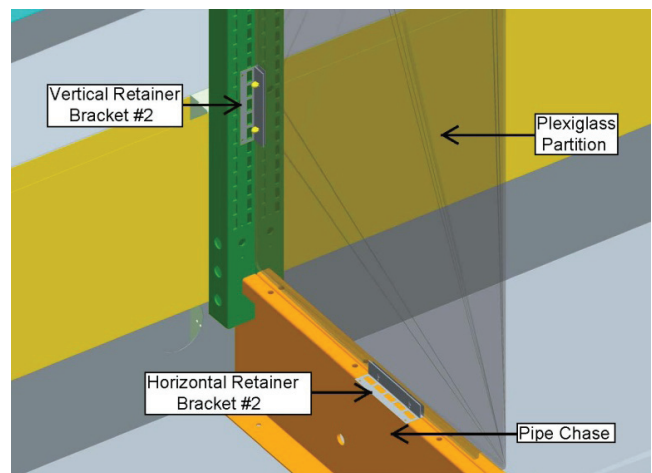

Figure 2: Bottom of Plexiglas
**Step 3:** Slide Horizontal Retainer Bracket #2 onto the bottom of the Plexiglas partition as shown in figure 2. Align the partition parallel to the pipe chase and secure the bracket by drilling directly into the pipe chase using the supplied tek screws. Slide Horizontal Retainer Bracket #1 onto the top of the Plexiglas partition and secure it to the top flue of the case using the supplied tek screws. Secure the partition using the retainer bolts and nuts in the horizontal retainer brackets as done in step 2.